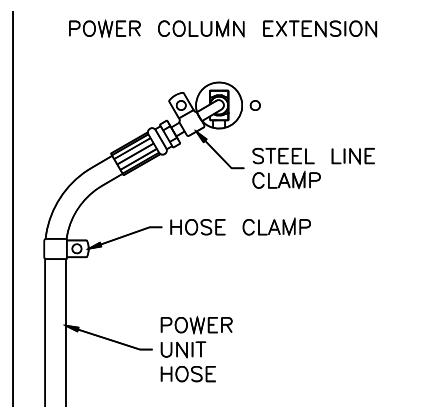

Fig. 13-Power Unit Hose Clamps
- 24) Loosely Connect Power Unit hose to the Tee and install a hose clamp and a steel line clamp on the outside of the power column extension as shown in **Fig 13**. (Use 1/4"-20NC x 3/4" lg. hex flange bolt and hex flange nut for steel line clamp.)